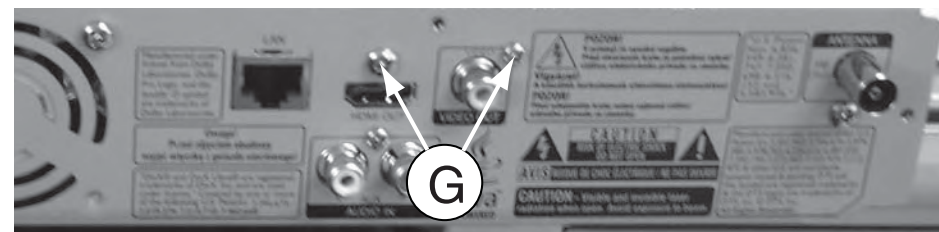

Figure 13
- 2) At the back panel, loosen 2 screws "G" as shown in figure 13